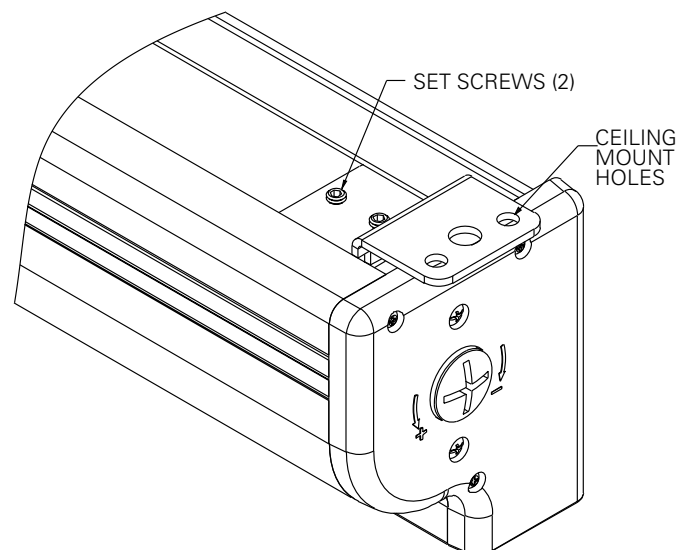

FIGURE 2
3. The top of the screen case has a channel that the ceiling mount brackets slide into. Loosen the two set screws on the brackets and slide bracket so it extends over the end of the case. Lock the brackets in place by tightening two set screws. Refer to figure 2. Mount cannot be more than 12" from end of case.
Use a large flat screwdriver to turn the adjustment knob on the right end of the screen (see figure 2 or 3). To increase the travel speed turn counterclockwise. To decrease the travel speed turn clockwise. Adjustments should be made in half turn increments and travel speed checked before adjusting further.